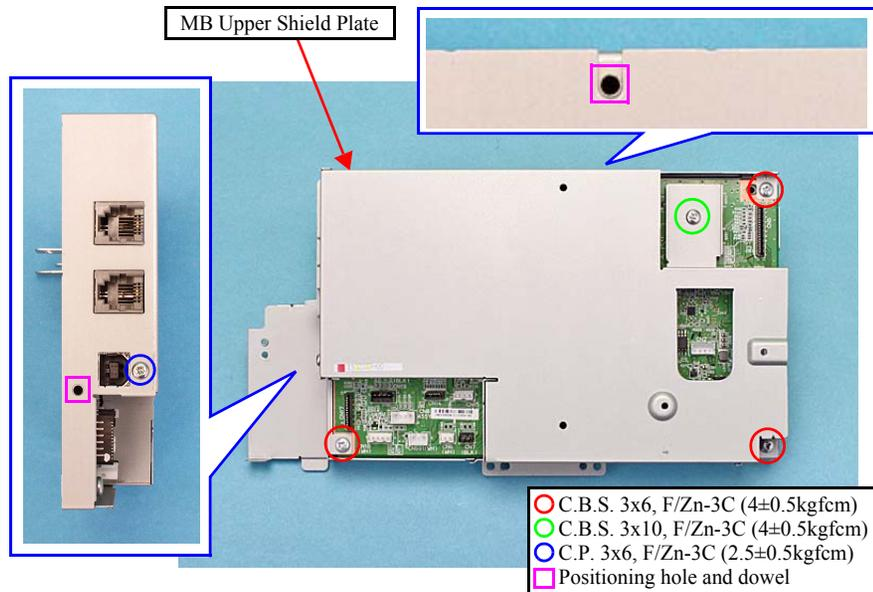

Figure 7-42. Removing the MB Upper Shield Plate
- When reassembling the Main Board Unit, make sure to match the positioning holes (x2) to the dowels (x2) as shown in Figure 7-42.